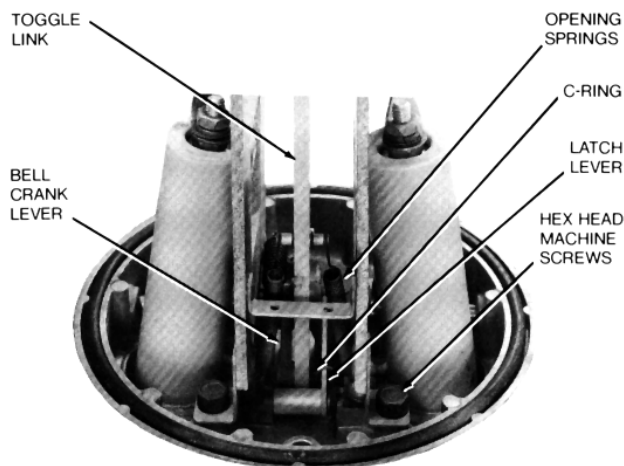

Figure 12.
1. Detach both opening springs from toggle link (Figure 12).